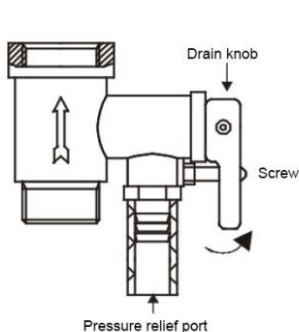

Fig 5*
6. To drain the internal tank, use the safety relief valve: unscrew the screw of drain knob on the safety relief valve and move the drain knob to the up position — the hot water outlet tap must be open and the cold water inlet tap must be closed (see Fig. 5). Water will start flowing from the pressure relief port of the safety relief valve.